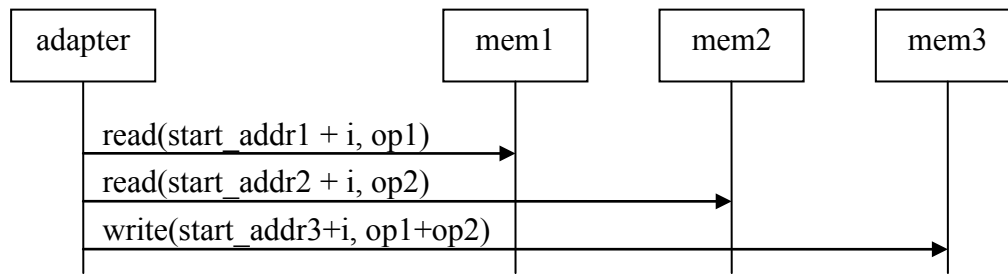

Figure 2
You will now implement an advanced adapter for the adder that is capable of fetching the addition operands from memory and writing the result to the target memory on its own, without help from the master. This reduces the transactions per addition to a number of 3 (see Figure 2). This is called direct memory access (DMA).
- c) Add a process (**SC_THREAD**) to the adapter. The process shall be triggered when **write(1028, data)** occurs with **data != 0**, e.g. by introducing an **sc_event**. Then it shall perform the addition of a block of operands as shown by the message sequence chart in Figure 2, for all **i** from 0 to **block_size - 1**. The addition of the two operands shall be performed by the adder (**NOT** in the adapter itself!). When finished, the process shall reset **status** to 0.